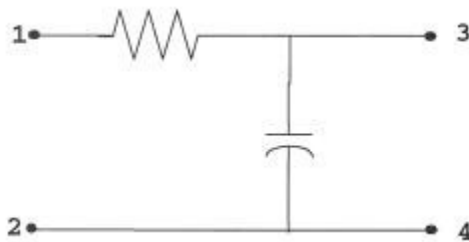

Figure 8-2 Low-pass configuration
1. Derive the voltage transfer functions for the networks in the following Figures 8-2 and 8-3.
2. Using MATLAB, obtain a plot of the voltage transfer function vs. frequency for the network in Figure 8-2. This should be done on a log-log scale. From the plot, identify the network as to whether it is low-pass, high-pass, or band-pass filter network and determine the break frequency (frequencies)
1. Connect the low-pass circuit shown in Figure 8-2 with the elements values specified in part 2a of the prelab.
5. Connect the low-pass circuit shown in Figure 8-2 with the elements values specified in part 2b of the prelab. Repeat steps 2 to 4 of the lab procedure.